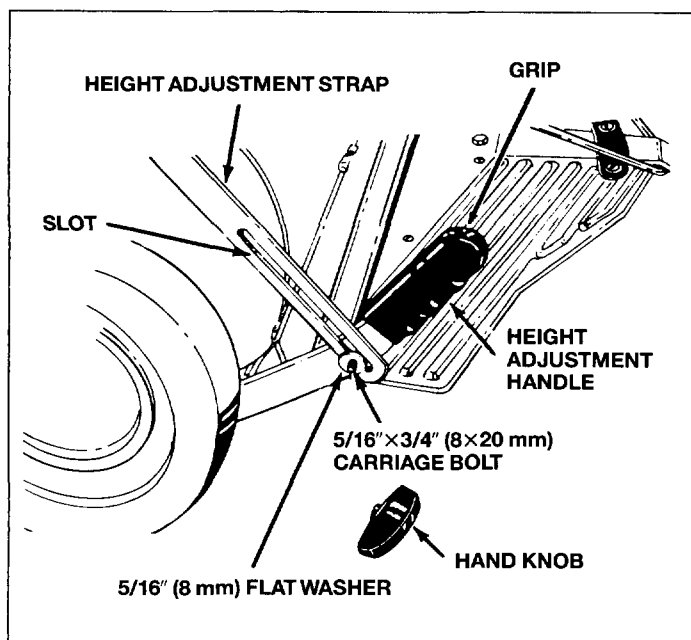

Fig. 10
- Assemble other end of height adjustment strap to height adjustment handle. See figure 10. Place slot on strap in line with square hole in height adjustment handle. Secure strap with $5/16" \times 3/4"$ (8×20 mm) carriage bolt; $5/16"$ (8 mm) flat washer and hand knob. See figure 10.
- Assemble the grip, with finger knobs as shown, to the height adjustment handle. See figure 10.